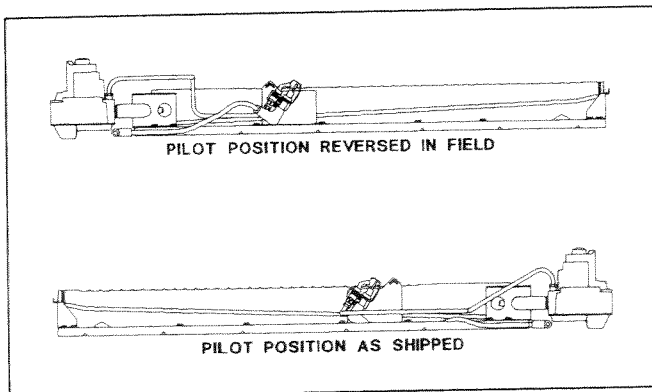

Figure 17. Field Reversed Pilot Position
8. Install pilot burner on opposite side of burner rack using screws during removal. See Figure 17 for pilot position when reversed.